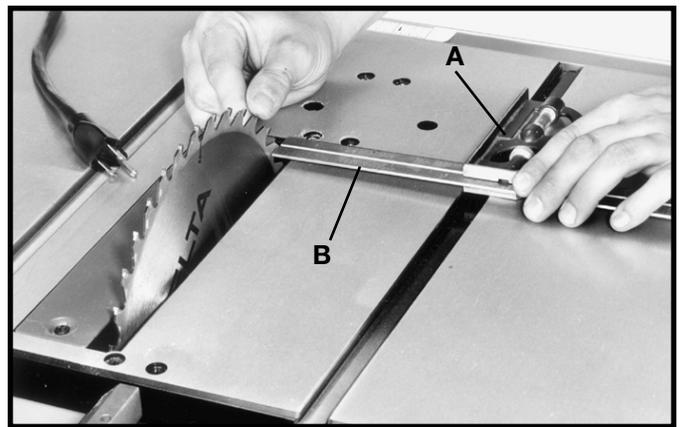
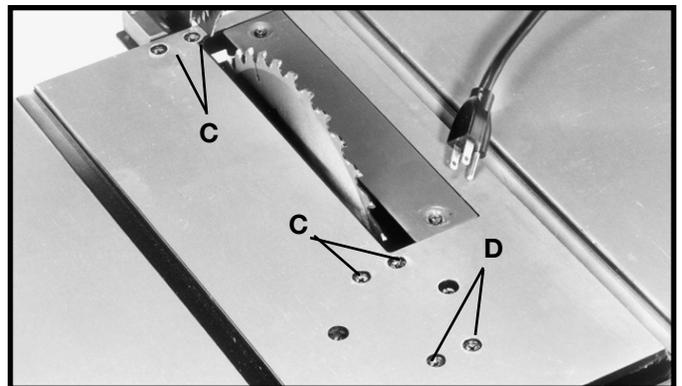

Fig. 45
Fig. 47
4. Using a combination square, place the body (A) Fig. 45, of the square against the miter gage slot and adjust the blade (B) of the square until it just touches the marked tooth, as shown.
6. If the front and back measurements (Figs. 45 and 46) are not identical, you can adjust the blade. Start by loosening the nuts below the four screws (C) Fig. 47 on the table. Then loosen the screws (C). Carefully move the saw blade until the blade is parallel to the miter gauge slot. When done, tighten four nuts under the table and the four screws (C) Fig. 47 securely.
**NOTE:** If sufficient adjustment cannot be achieved by loosening screws (C), screws (D) may also be loosened if absolutely necessary to make the adjustment.